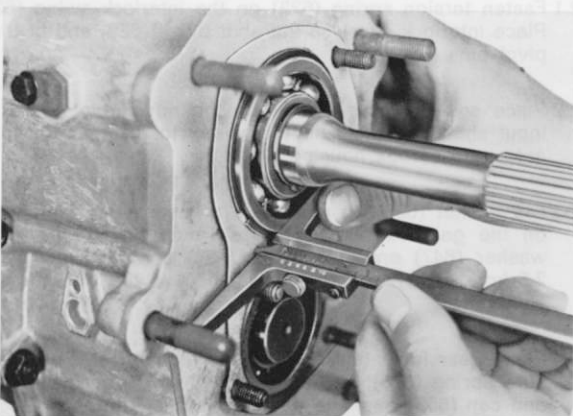
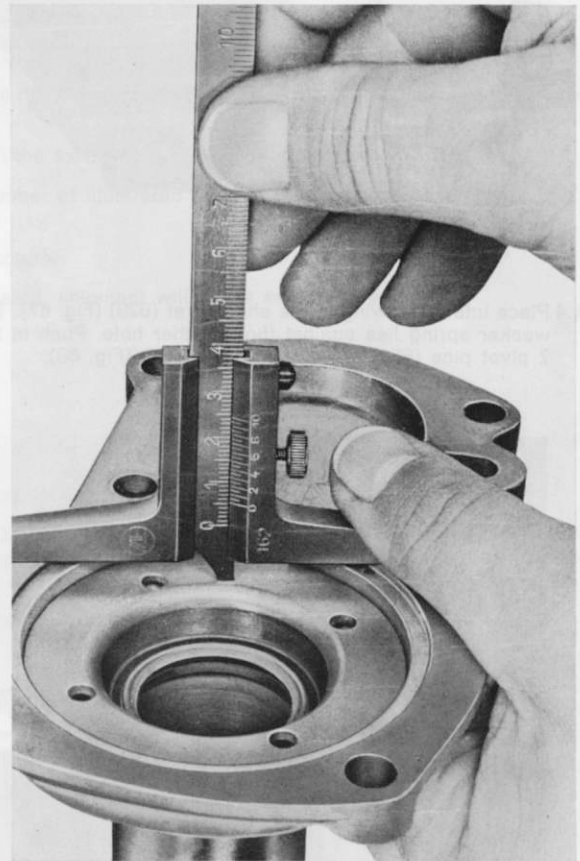

Fig. 63
Fig. 64
6. The selection of the spacer (804) for the ball bearing must give between 0 and 0,05 mm pre-load. Hold the layshaft bearing and firstly measure the amount of the ball bearing projecting over the sealing surface (Fig. 63) and then take this measurement from the depth of the smaller bore in the withdrawal bearing carrier (Fig. 64). The resultant dimension less 0 to 0,1 mm play gives the thickness of the spacing washer (210) which is available in thicknesses of 0,4; 0,5; 0,6; 0,7; 0,8; 0,9 and 1,0.